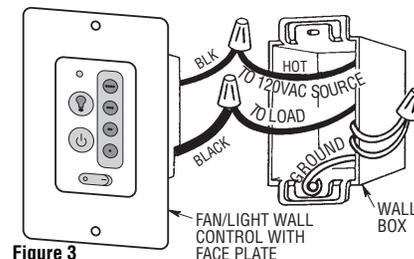

Figure 3
- Connect one black wire of wall control to the "hot" wire. Securely connect wires with wire connectors supplied (Figure 3).